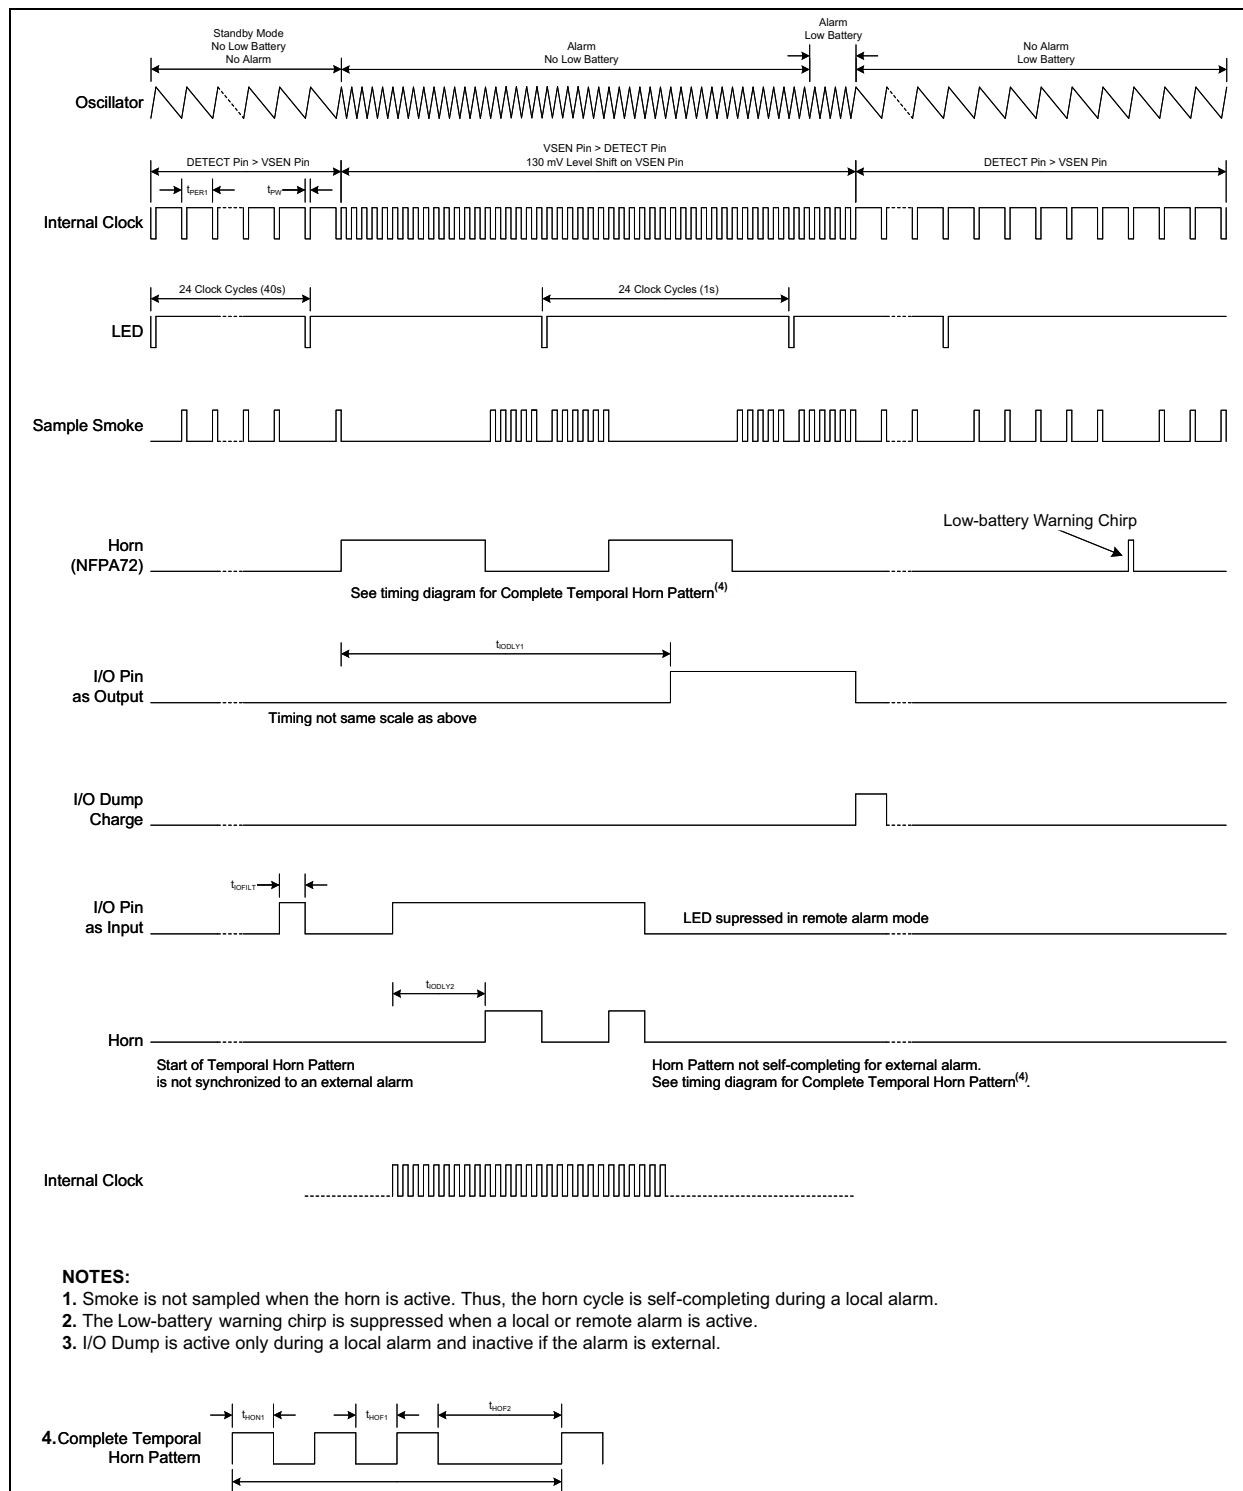
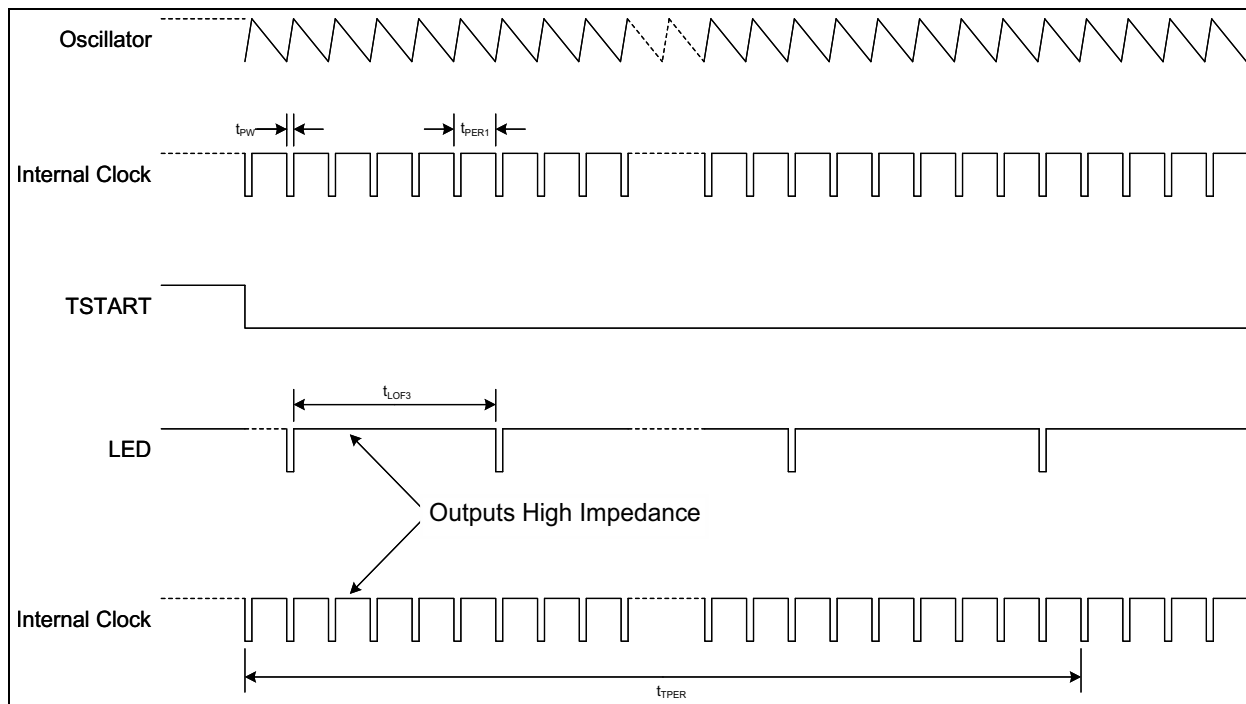

FIGURE 3-1: RE46C122 Timing Diagram – Non-Timer Mode.
FIGURE 3-2: RE46C122 Timing Diagram – Timer Mode.
Note 1: See timing diagram for HFP72 Temporal Horn Pattern in Figure 3-1.
By holding the OSCAP pin low at power up, the internal power strobe becomes active. While functional testing can be accelerated by driving the OSCAP pin with a 4 kHz square wave, maintain the 10.5 ms strobe period to ensure the proper operation of the analog circuitry. Refer to the timing diagrams in Figure 3-1 and Figure 3-2.
- Updated Figure 3-1 and Figure 3-2.